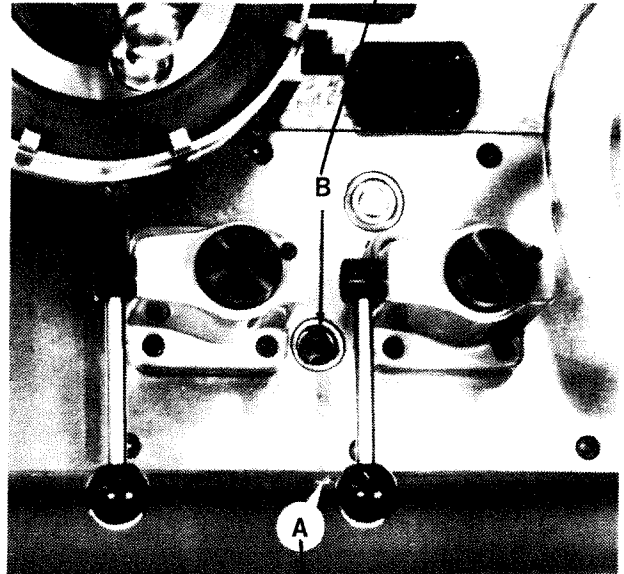

Figure 1.1 - Lubricant Sight Window and Drain Plug
1. Place a drain pan capable of holding one pint of liquid under drain plug "A", Figure 1.1 .